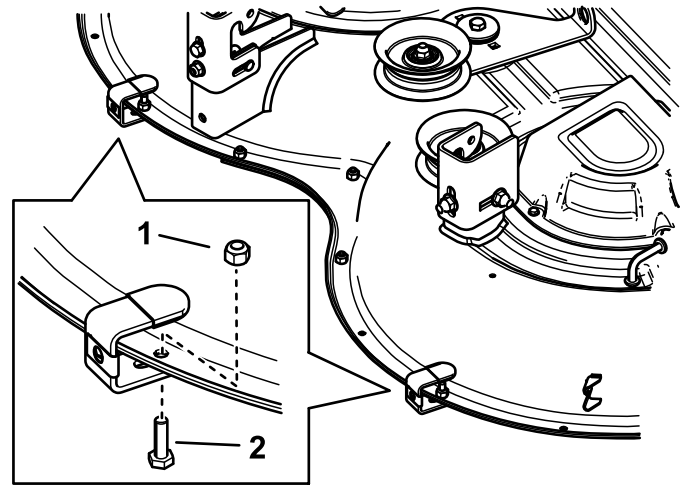

Figure 2
4. Install the brackets in the holes shown in Figure 2. Hold the rubber cap of the bracket tightly against the back of the mower deck and tighten.